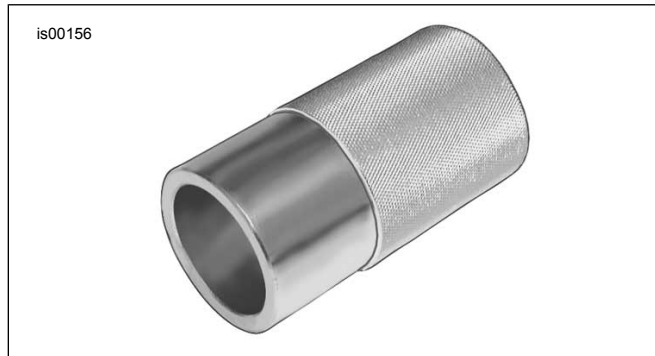

Figure 4. Fork Seal/Bushing Tool (HD-34634)
8. See Figure 4. Obtain the Fork Seal/Bushing Tool (HD-34634) and proceed as follows: